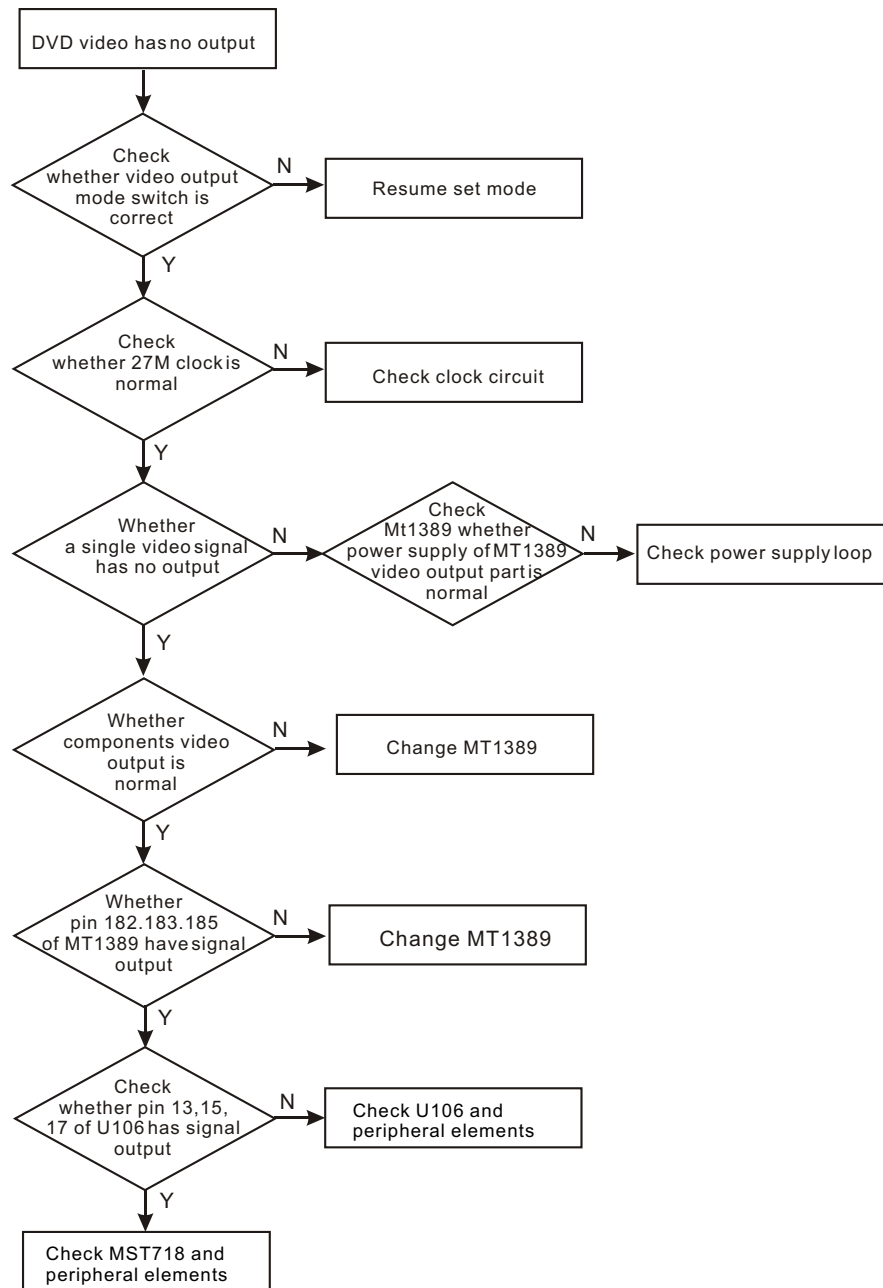

Figure 3.3.2.3 Troubleshooting flow chart for “DVD has no video output”
4. Troubleshooting process for “DVD has no sound output” is shown in the figure 3.3.2.4: